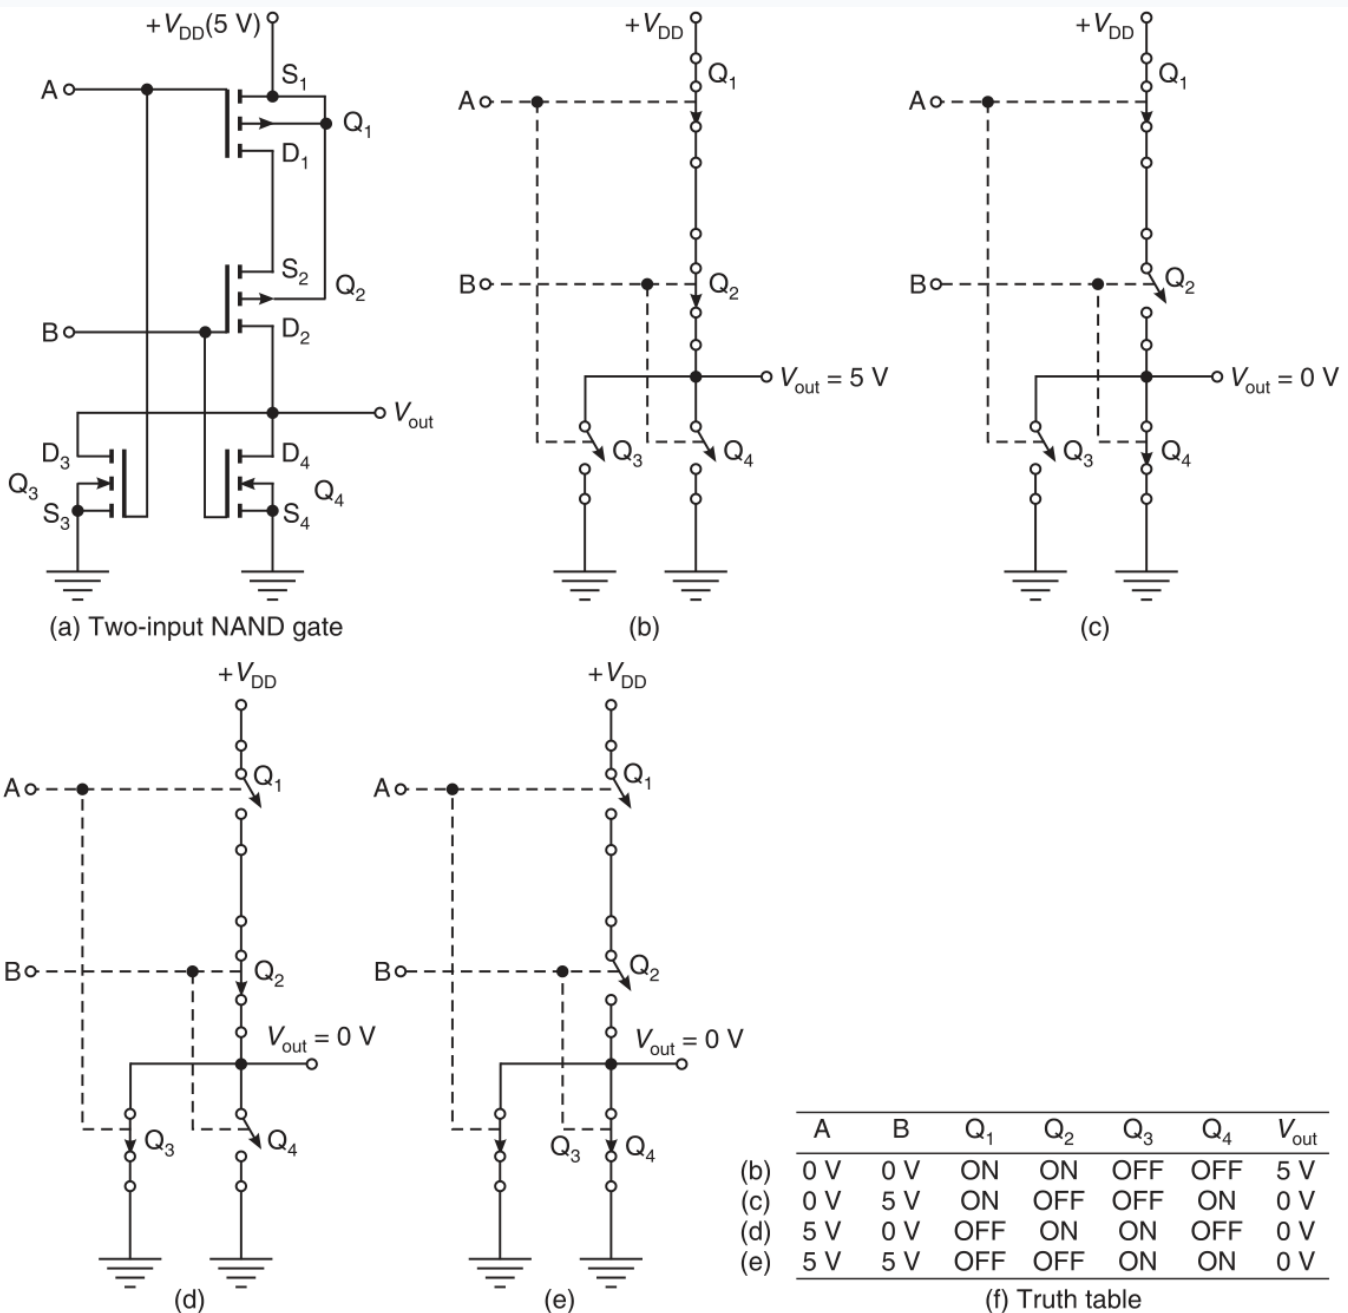

Figure 16.25 Circuit diagram and equivalent circuits for various inputs of the CMOS NOR gate.
3. The CMOS NOR Gate (Kumar, p. 923, Figure 16.25)